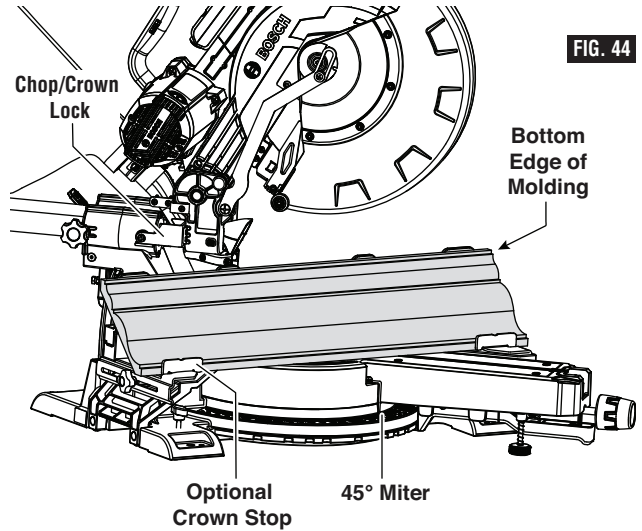

FIG. 44
1. Position the molding so the bottom (decorative part, which is installed against the wall) is against the fence, figure 44.